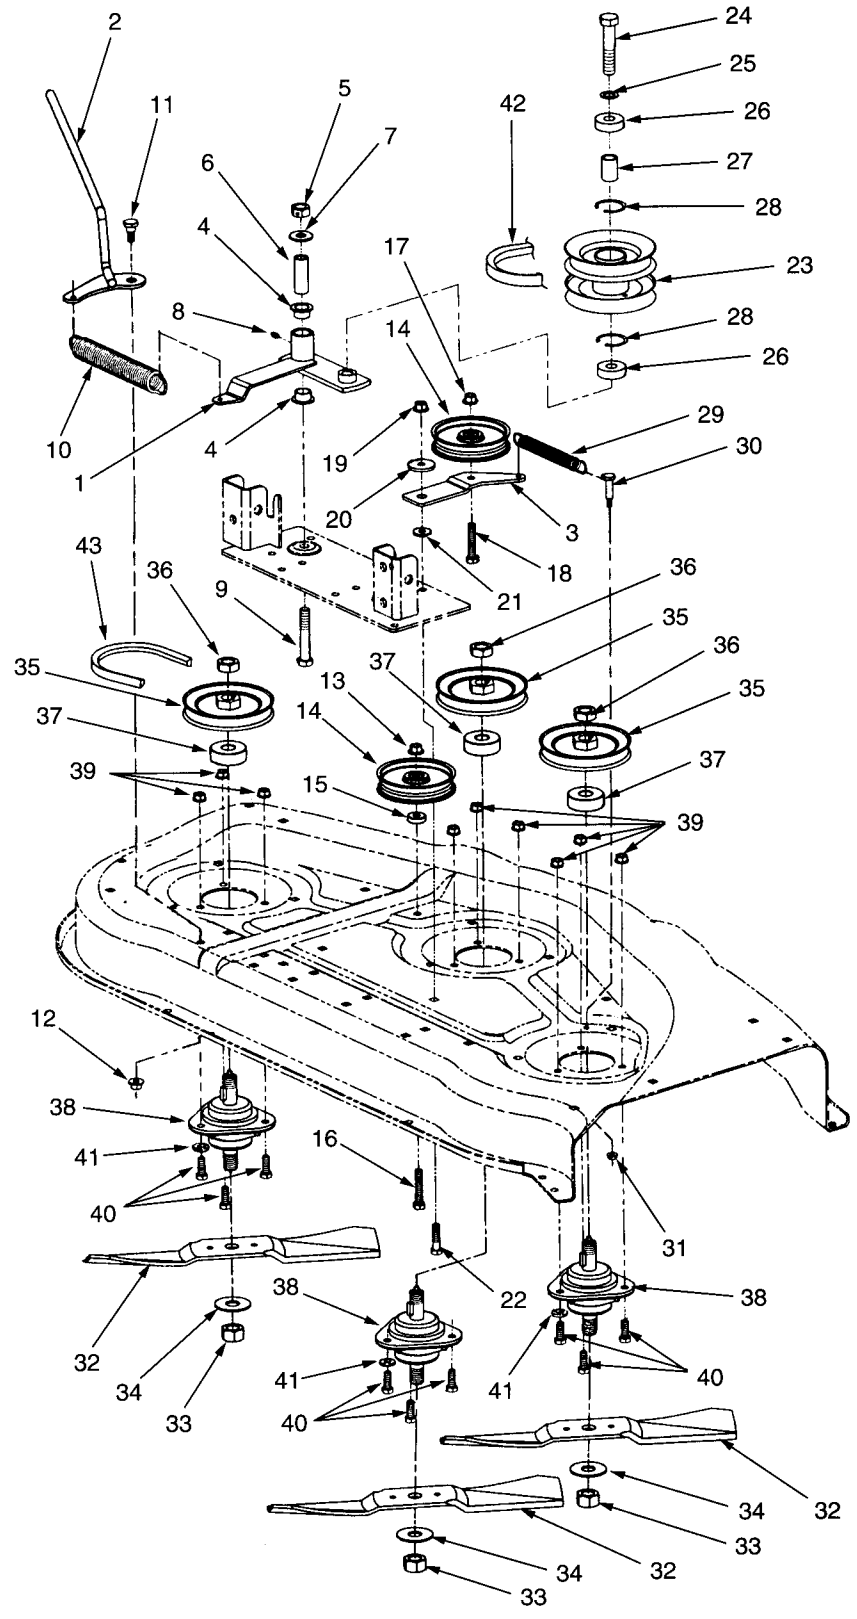

Figure 5-54. Deck Drive Components (Model 190 - 301 Mower Deck).
For reassembly purposes, note the hex cap screw (22, Fig. 5-54) fastening the idler arm (3) to the mounting plate (4, Fig. 5-53) is the same hex cap screw (46, Fig. 5-53) that fastens the front right mounting tab of the rear inner baffle (14, Fig. 5-53) to the underside of the deck.
12. Remove the idler arm (3, Fig. 5-54), flat idler pulley (14), and shoulder spacer (20) as an assembly by removing the hex flanged lock nut (19), hex cap screw (22), and flat washer (21). Separate the shoulder spacer from the idler arm.
14. Remove the mounting plate (4, Fig. 5-53), double pulley pivot arm (1, Fig. 5-54), and double pulley (23, Fig. 5-54) as one assembly by removing the the remaining two hex flanged lock nuts (45, Fig. 5-53) and carriage bolts (44).
15. Remove the fixed flat idler pulley (14, Fig. 5-54) and spacer (15) from the deck housing (1, Fig. 5-53) by removing the hex cap screw (16) and hex flanged lock nut (13).
Use care when handling the mower blades (32, Fig. 5-54). Sharp edges of the blades could cause cuts to the skin.
When the hex nut (33, Fig. 5-54) is removed, the spindle shaft, with V-pulley (35), is free to fall from the spindle assembly (38) when the deck is tipped or inverted to remove the blades. Use care to prevent these parts from falling, which could cause damage or injury.
To prevent the spindle shaft from turning when removing the hex nut (33, Fig. 5-54) and/or hex jam nut (36), use a 1-1/4 inch wrench to hold the hex shaped hub of the V-pulley (35).
23. Remove the cutting blades (32, Fig. 5-54) from the spindle assemblies (38) by removing the hex nuts (33) and flat washers (34).
If the woodruff key is removed from the spindle shaft when removing the V-pulley (35, Fig. 5-54), the shaft will be free to fall from the spindle housing and may cause damage or injury.
24. Remove the hex jam nuts (36) and pull the V-pulleys (35) from the spindle shafts and woodruff keys.
25. Using care to prevent the spindle shaft from sliding through the spindle assembly, pull the woodruff keys from the shafts to remove the spacers (37, Fig. 5-54).
26. Remove the spindle assemblies (38) from the deck housing by removing the hex cap screws (40), hex flanged lock nuts (39) and flat washers (41).
27. If necessary, note the hole location and remove the shoulder bolt (30, Fig. 5-54) and hex flange lock nut (31) from the deck housing.
Disassembly, inspection, and reassembly of the spindle assemblies (38, Fig. 5-54) are covered in paragraph 5-37.
- a. After first marking the location of the hex jam nuts (56) on the threads of the lift rod (20), remove the hex nylon top lock nuts (55) to separate the lift rod from the front lift bracket (19).
- b. Remove the shoulder bolts (57) and hex flanged lock nuts (58) from the front lift bracket.
- c. Remove the hex jam nuts (56) from the front lift rod (20).
4. As one assembly, remove the double pulley pivot arm (1, Fig. 5-54) and double pulley (23) from the mounting plate (4, Fig. 5-53) by removing the hex center lock nut (5), hex cap screw (9), and flat washer (7).
5. Remove the double pulley (23, Fig. 5-54) assembly from the pulley pivot arm (1) by removing the hex cap screw (24) and flat washer (25).
6. Disassemble the double pulley pivot arm (1) assembly as follows:
- a. Slide the idler bracket spacer (6) from the hub of the pivot arm.
- b. If necessary, press the flange bearings (4) from each end of the pivot arm hub. Discard the bearings and replace with new.
- c. Remove the lube fitting (8), only if necessary, by pulling from the pivot arm hub. The lube fitting must be replaced if removed.
7. Disassemble the double pulley assembly (23) as follows:
- a. Slide the ball bearing (26) from each end of the pulley hub and remove the pulley spacer (27).
- b. Remove the internal snap rings (28) from inside the pulley hub.
8. Remove the flat idler pulley (14, Fig. 5-54) from the idler arm (3) by removing the hex flanged lock nut (17) and hex cap screw (18).
7. Inspect the shoulder spacer (20, Fig. 5-54) and idler arm (3) for wear to mating surfaces.
- a. Insert the support pin (28) through the hole in the outer side of the hanger bracket.
- b. Position the compression spring (29) between the sides of the hanger bracket and push the support pin through the spring.